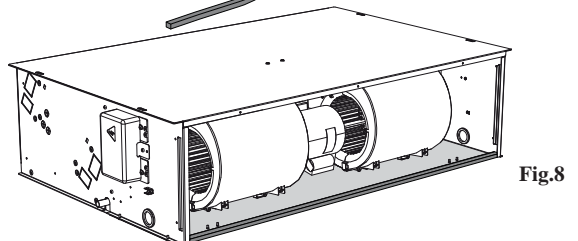

Fig.8
- Re-mount the ventilation compartment closure panel (fig.8)